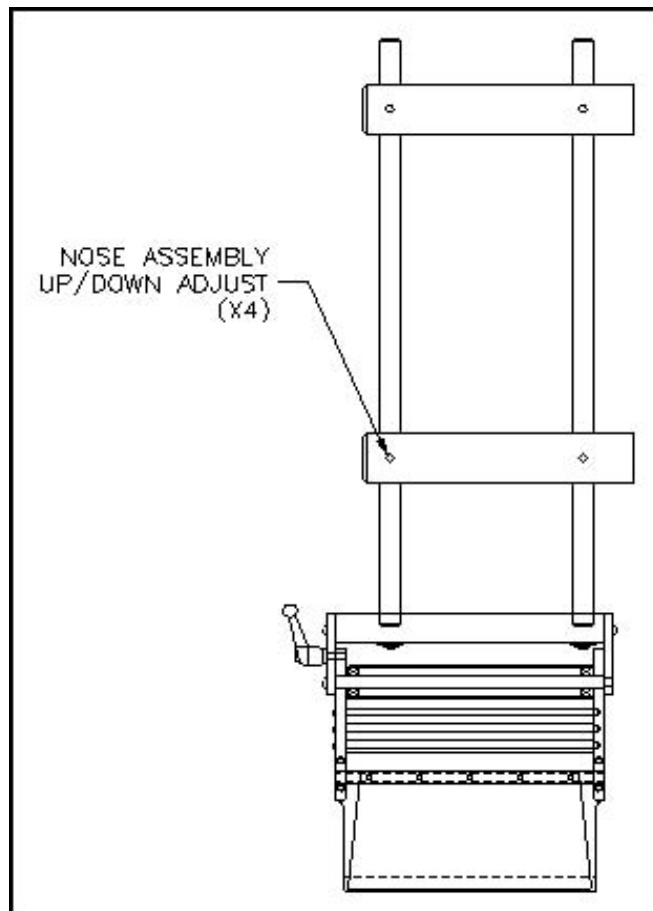

Figure 40 Nose Height Adjustment
3. Position the applicator nose at a 15-25° angle to the side of the conveyor. Adjust the angle by loosening the kip lever shown in Figure 40, moving the peeler plate to the proper angle, and then tighten the kip lever.